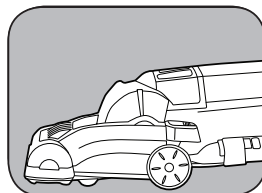

Fig. 4
4. Low position - for cleaning under furniture\* (Fig. 4).